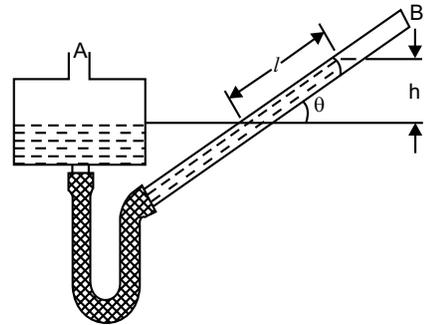

Fig. 2.8
- (c) **Inclined tube manometer:** It is just a modification of an ordinary U-tube manometer, for improvement of sensitivity, shown in figure 2.8.